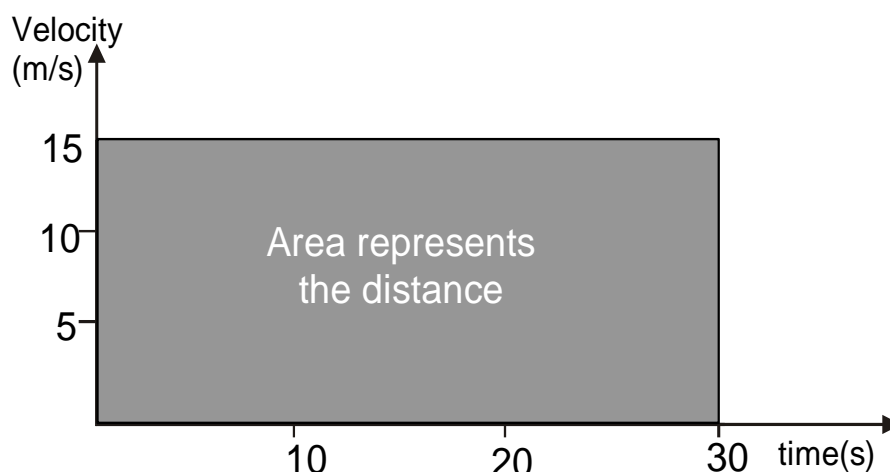

Figure 6 - Linear velocity
39. Using the earlier definitions of velocity and acceleration, we will now look deeper at the case of a body moving with respect to time. One way to visually represent this is to use a velocity / time graph as shown in figure 6.
40. Figure 6 shows a velocity time graph for a cyclist travelling at 15 m/s for 30 s. We can calculate the distance travelled by using the previous definition of velocity. Rearranging the formula, gives: